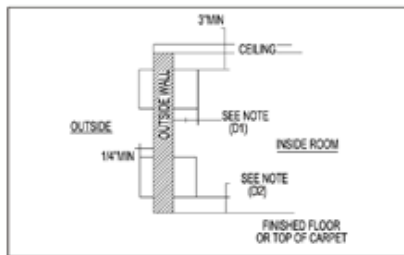

Fig. 1
- E) There should be sufficient space around the unit to facilitate maintenance and repairs (refer to Figs. 1 and 2).